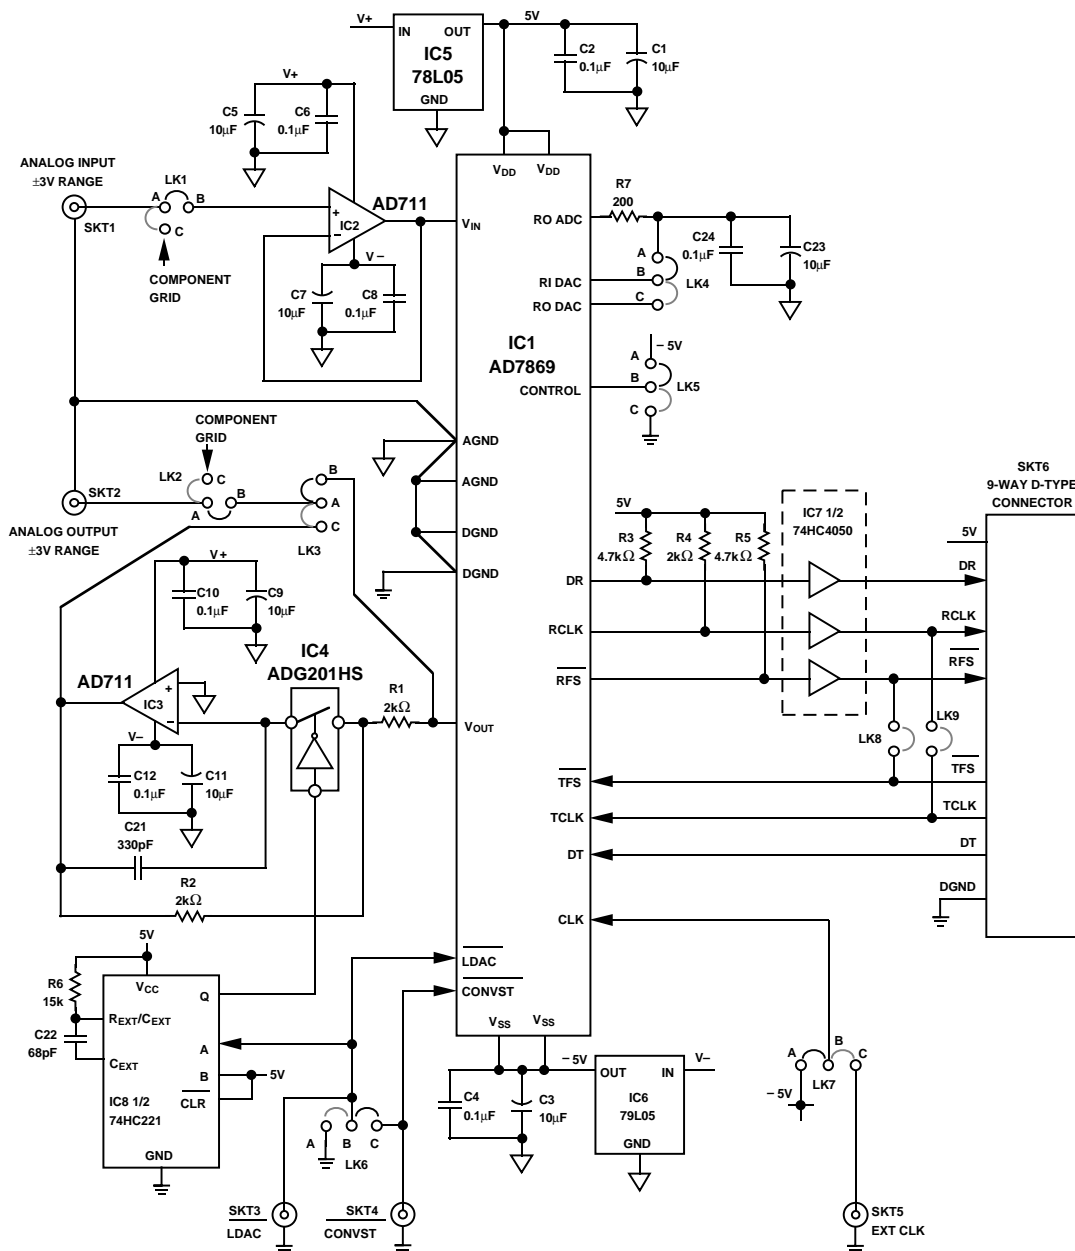
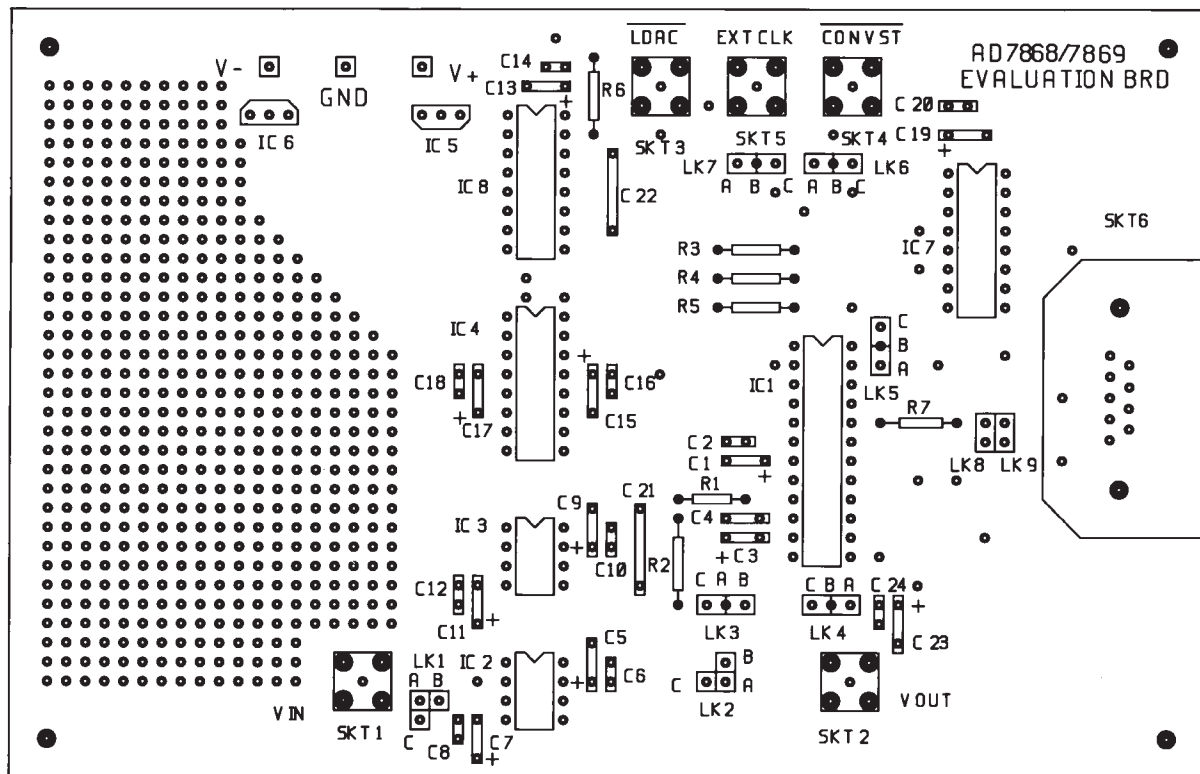

Figure 19. Input/Output Circuit Based on the AD7869
Figure 21. Silkscreen for the Circuit Diagram of Figure 19
Figure 19 shows an analog I/O board based on the AD7869. The corresponding printed circuit (PC) board layout and silkscreen are shown in Figures 21 to 23.
The PC board requires two analog power supplies and one 5 V digital supply. Connections to the analog supply are made directly to the PC board as shown on the silkscreen in Figure 21. The connections are labeled  $V+$  and  $V-$ , and the range for both of these supplies is 12 V to 15 V. Connections to the 5 V digital supply are made through the D-type connector SKT6. The  $\pm 5$  V analog supply required by the AD7869 is generated from two voltage regulators on the  $V+$  and  $V-$  supplies.